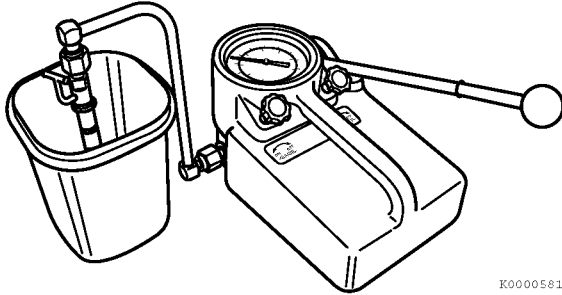

Figure 7-29
*Note: Test the fuel injector using an injection nozzle tester (**Figure 7-29**). Operate the tester following the information provided by the tester manufacturer. Use clean, filtered fuel or FIE calibration fluid for the test.*